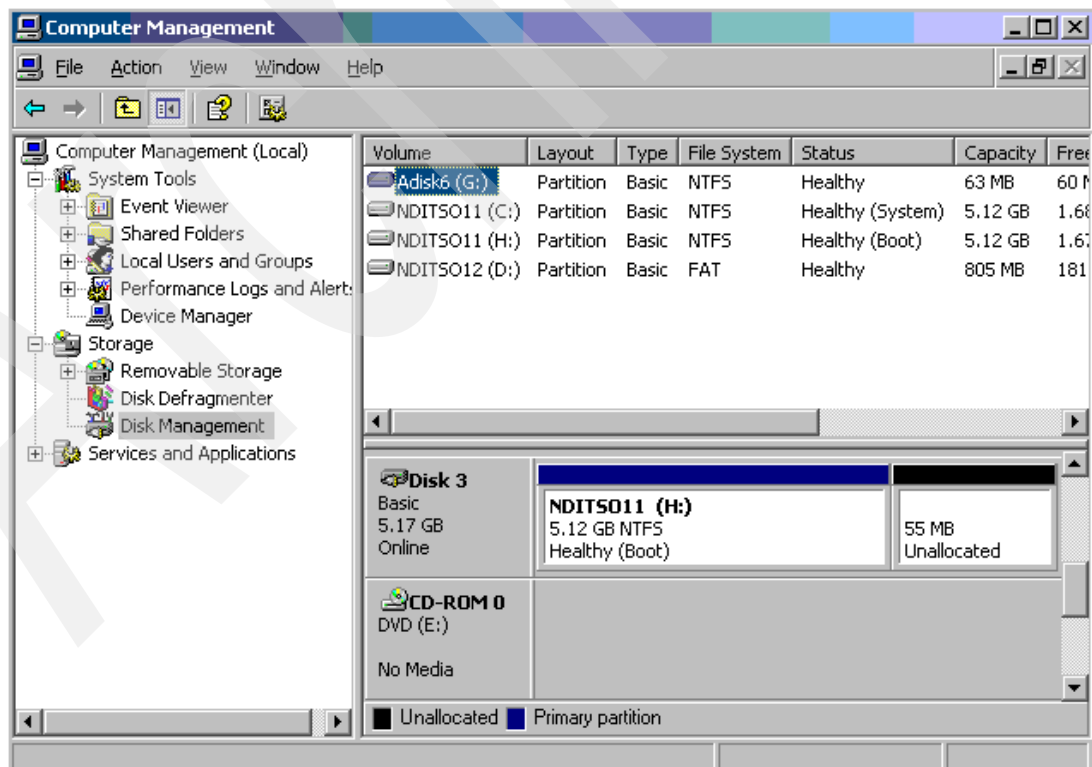

Figure 6-101 Disk Management within Windows Server 2003
- On Windows Server 2003, the diskpart utility should be done to get the expanded disk space added to the current disk space of the Disk drive. In Windows Server 2003 disk management, you notice that the added disk space is not yet part of the current disk space (Figure 6-101).